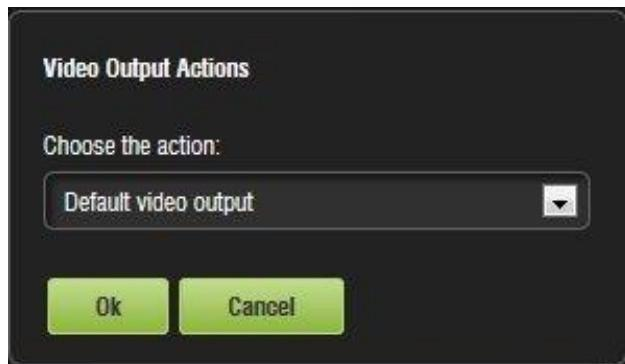

Figure 142: Video Output Set Up Window
- The following window will appear (Figure 142):